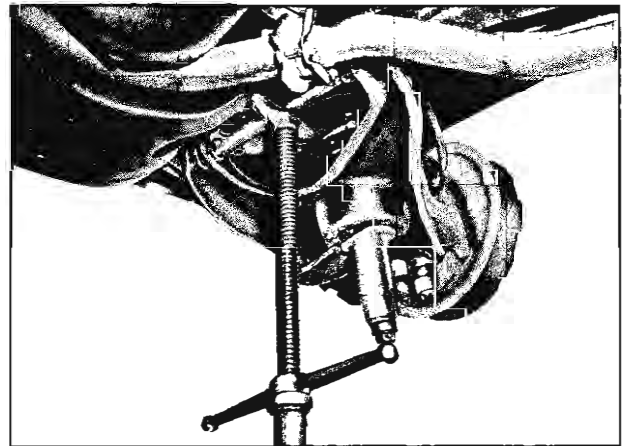

Fig. 15—Lowering Control Arm
5. Remove the three control arm cross shaft attaching bolts, washers and nuts (fig. 15).